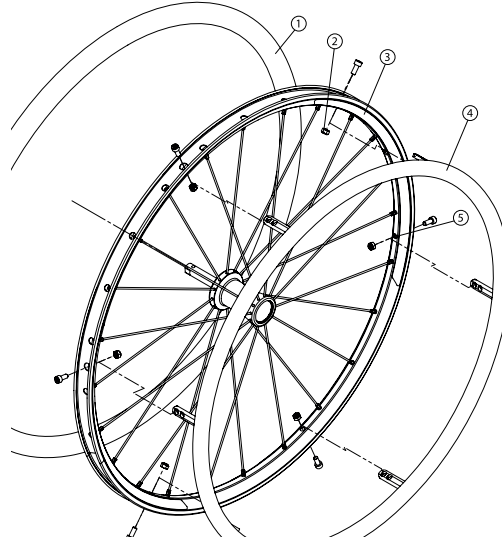

Fig. 24
- Use a plastic tire removal tool to take off the tire (1) (Fig. 24).
- Remove all nuts (2) inside the rim (3).
- Replace the handrim (4) with a new one and align the mounting holes (5).